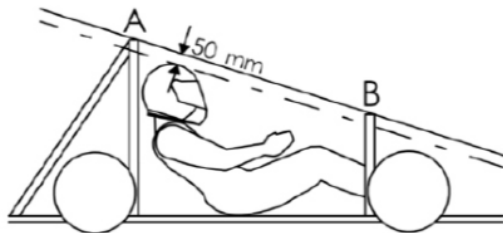

Figure 2.1
- T10.1. The vehicle must have front and rear roll bars offering protection in accordance with the diagrams shown here – the helmeted head of all drivers must be at least 50 mm below the line A-B as shown. *See Fig 2.1*